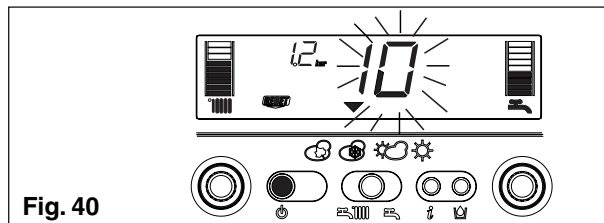

Fig. 40
2) Viewing just the symbol (fig. 40)